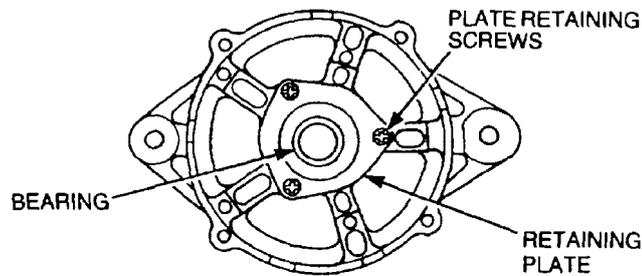

Figure 289 Removing the Front Cover Bearing
- (4) Remove the screws and washers securing the bearing retaining plate to the front cover (Figure 289), remove the plate and using a suitable press and arbor, remove the bearing.